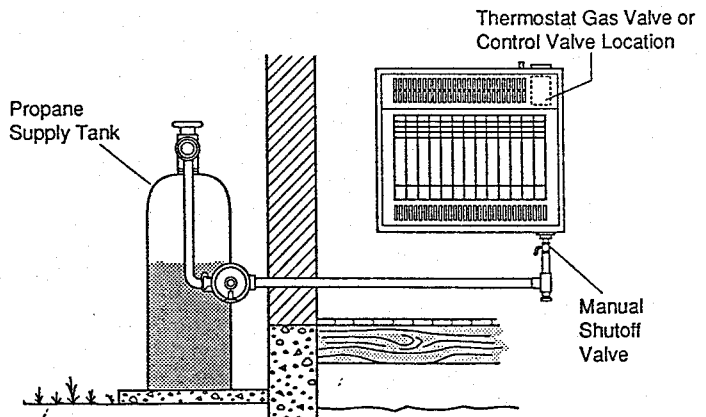

Figure 14 - Checking Gas Joints
3. Check all joints from propane supply tank to manual shutoff valve (see Figure 14). Apply mixture of liquid soap and water to gas joints. Bubbles forming show a leak that must be corrected.
4. Check all joints from manual shutoff valve to thermostat gas valve (models CGP18T and CGP28T) or control valve (model CGP18) (see Figure 14). Apply mixture of liquid soap and water to gas joints. Bubbles forming show a leak that must be corrected.